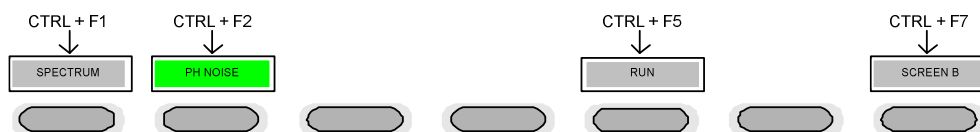

Fig. 1 Quick Access to Hotkeys
CTRL keys	Used to activate hotkeys. Each of the seven hotkeys is allocated a different function (F) key. To access these hotkeys press CTRL and the corresponding F key together (see Fig. 1):